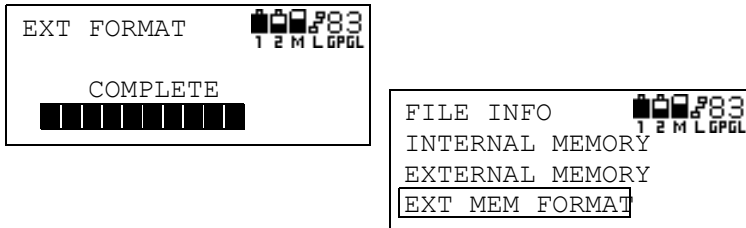

Figure 3-113. Format Complete, Press Key to Display Memory Screen
- Once the format completes, press any key to return to the memory screen (Figure 3-113).